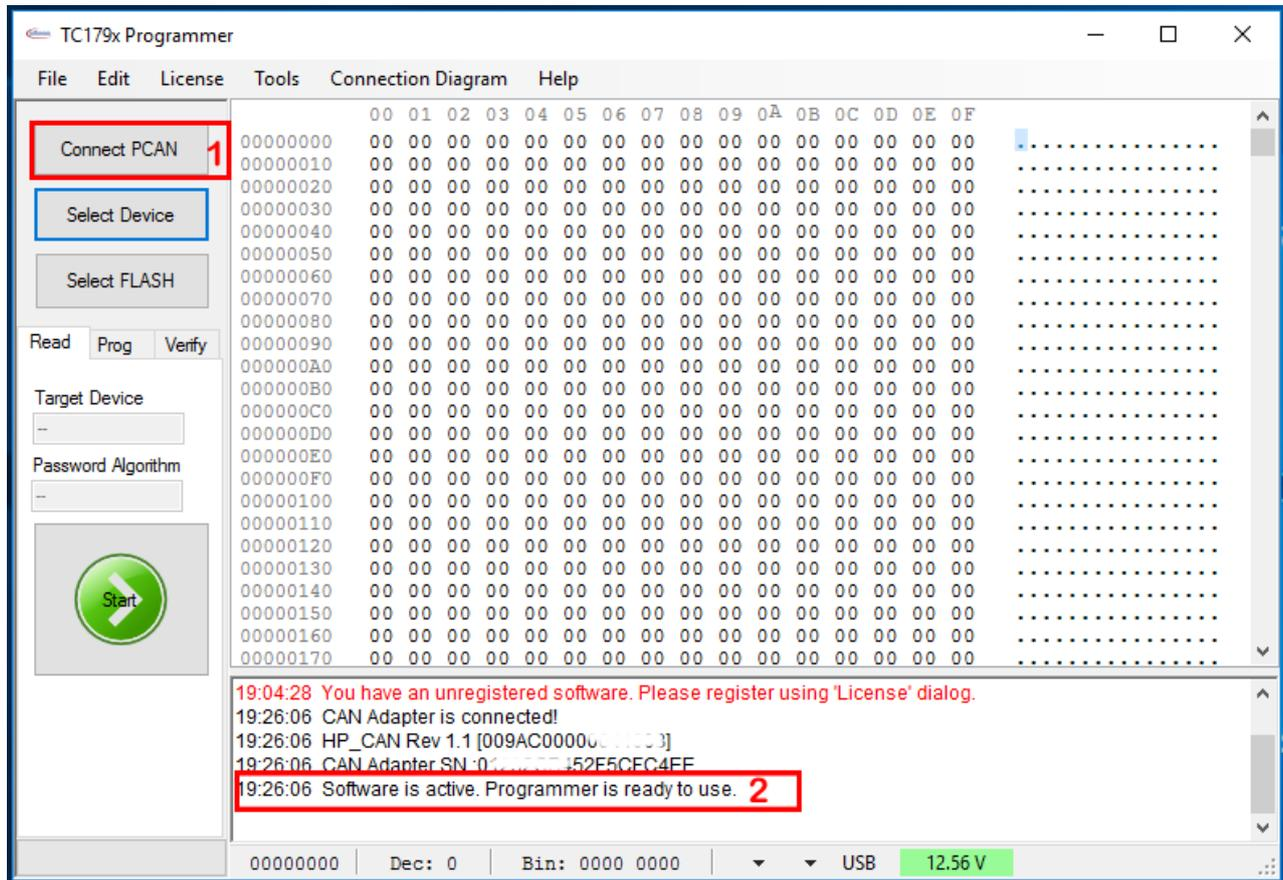

Figure 23 Successful TC179x-Programmer activation and connection
- Wait until the "Software is active. Programmer is ready to use" message appear (Figure 23).